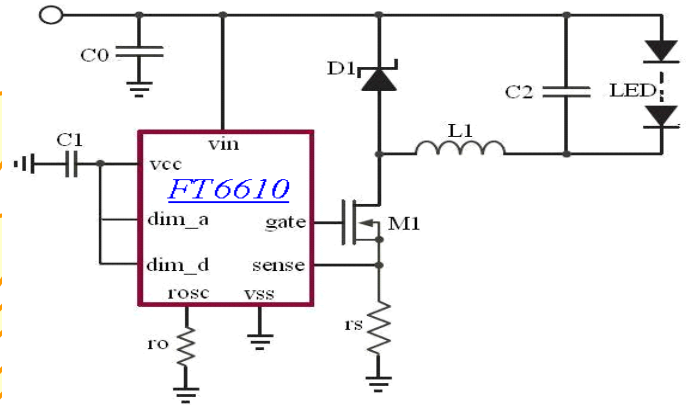
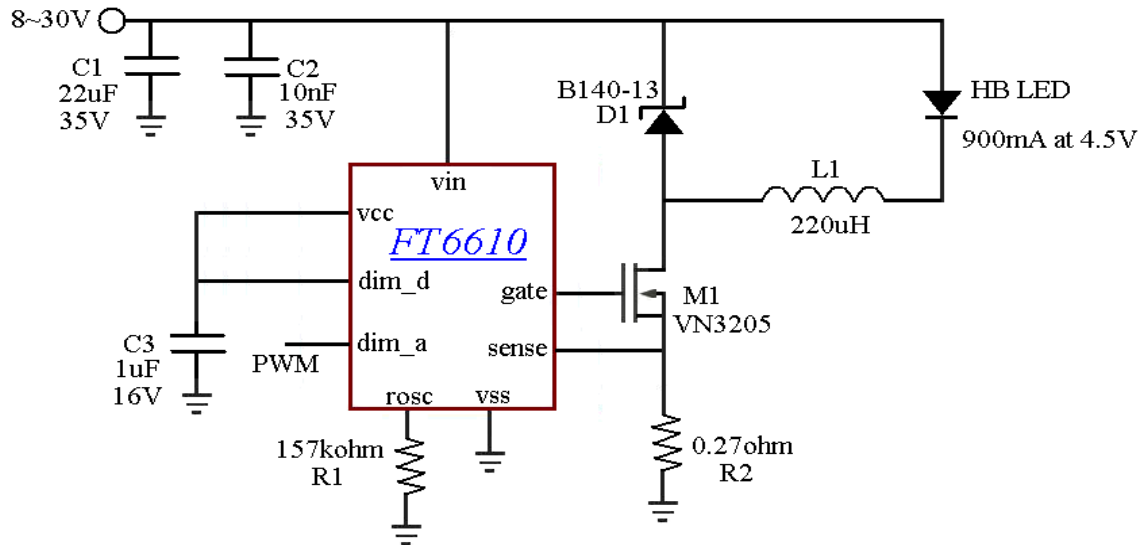
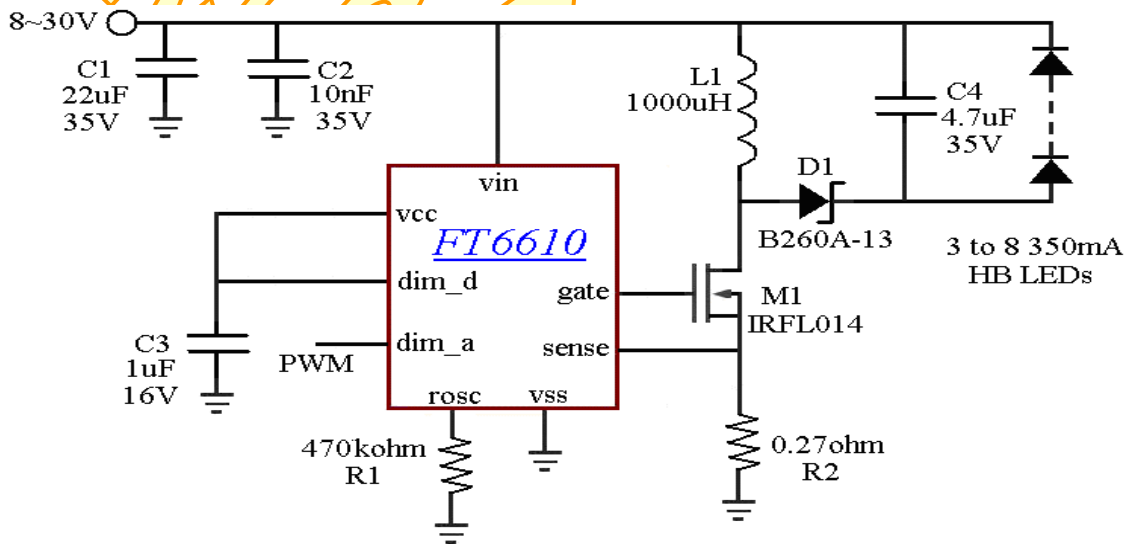

Fig 1. Typical application
Fig 5. Buck Driver for a single 900mA HB LED(vin=8~30V)
Fig 6. Buck-Boost driver powering 3 to 8,350mA HB LEDs (Vin=8~30V)
The FT6610 is a low-cost off-line buck(see Fig 5.) or boost (see Fig 6.) converter control IC designed specifically for driving multi-LED stings or arrays. It can be operated from either universal AC line(see fig 4.) or any DC voltage (see fig 1.) between 8-450V. Optionally, a passive power factor correction circuit can be used in order to pass the AC harmonic limits set by EN 61000-3-2 Class C for lighting equipment having input power less than 25W. The FT6610 can drive up to hundreds of High-Brightness (HB) LEDs or multiple strings of HB LEDs. The LED arrays can be configured as a series or series/parallel connection. The FT6610 regulates constant current that ensures controlled brightness and spectrum of the LEDs, and extends their lifetime. The FT6610 features an enable pin (DIM_D) that allows PWM control of brightness.
When the buck converter topology of Figure 1 is selected, the peak SENSE voltage is a good representation of the average current in the LED. However, there is a certain error associated with this current sensing method that needs to be accounted for. This error is introduced by the difference between the peak and the average current in the inductor. For example if the peak-to-peak ripple current in the inductor is 150mA, to get a 500mA LED current, the sense resistor should be $250\text{mV}/(500\text{mA} + 0.5 \cdot 150\text{mA}) = 0.43\Omega$.
Referring to the typical buck application circuit in Fig 5. , the value can be calculated from the desired peak-to-peak LED ripple current in the inductor. Typically, such ripple current is selected to be 30% of the nominal LED current. In the example given here, the nominal current Iled is 350mA.
In the buck-boost application circuit in Fig 6., the energy from the input source is first stored in the inductor or a Flyback transformer when the switching transistor is ON, The energy is then delivered to the output during the OFF time of the transistor. When the energy stored in the Flyback inductor is not fully depleted by the next switching cycle*(continuous conduction mode) the DC conversion between input and output voltage is given by: